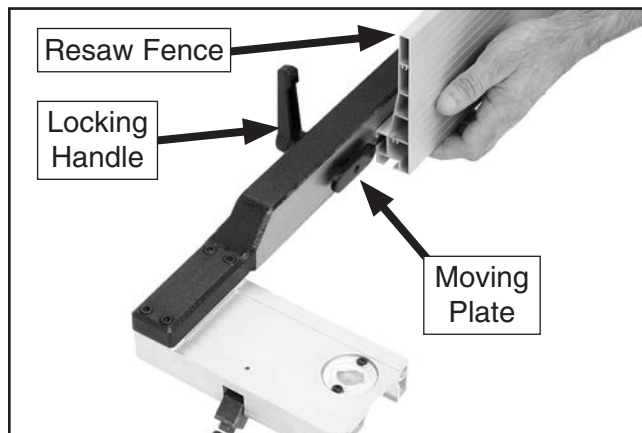

Figure 32. Attaching resaw fence.
24. Place 8mm flat washer on locking handle (see **Figure 32**), slide it through hole in fence, then thread moving plate onto end of locking handle threads.
25. Slide resaw fence over moving plate, as shown in **Figure 32**, so moving plate fits inside channel of resaw fence, then tighten locking handle.